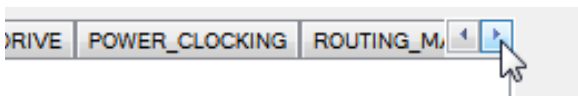
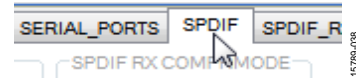

Figure 37. Using the Register Tab Scroll Button
Figure 38. Selecting the SPDIF Tab
- b. To access the SPDIF tab, click the right arrow to scroll (see Figure 37). Then, click the SPDIF tab (see Figure 38). There are several register control tabs listed across the top of the window.